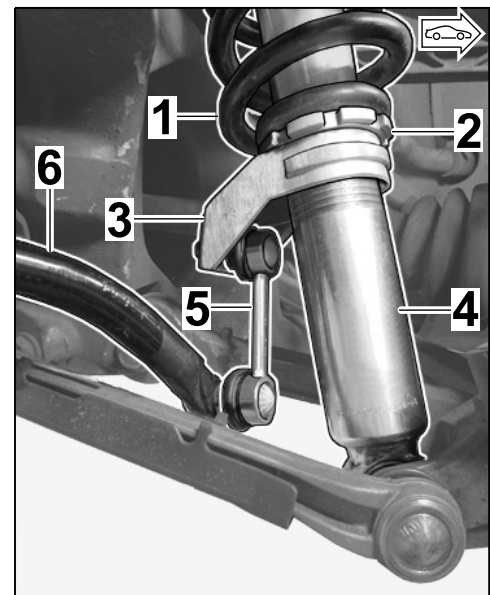

Figure 11
3.6.3 Fit new suspension/stabilizer as shown in Figure 11 (⇒ *Figure 11*).